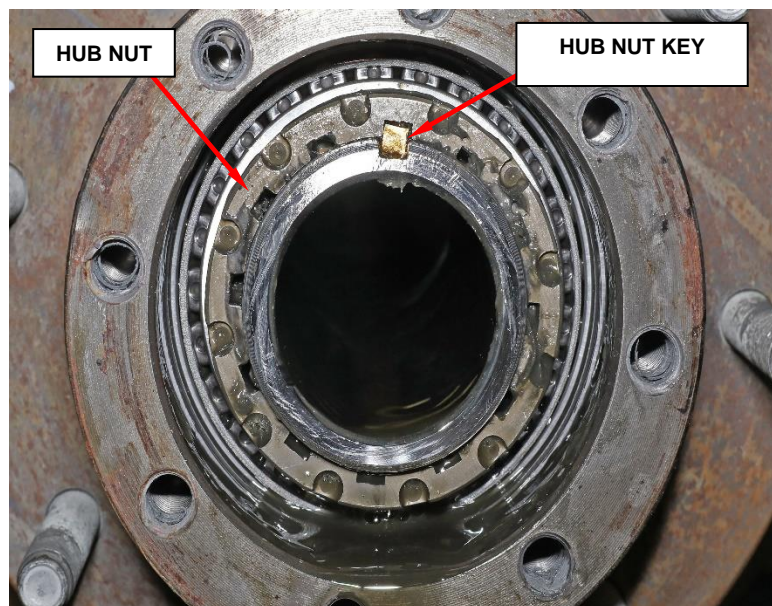

Figure 11 – Hub Nut Key
7. Remove the hub nut key (Figure 11).
28. Install the hub bearing nut **Socket, Hub Nut 2029500030** and tighten the hub bearing nut to 95 N·m (70 ft. lbs.) then reverse the nut 30° and align to the nearest notch (Figure 11).
29. Install the hub nut locking key (Figure 11).